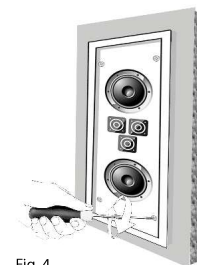

Fig. 4
- 7) Tighten the four front panel machine screws by hand clockwise until the rails catch and securely engage the back of the drywall. Tighten each screw a few turns going around the speaker in order to apply even force to the back of the speaker. Do not use a drill! (See Fig. 4)